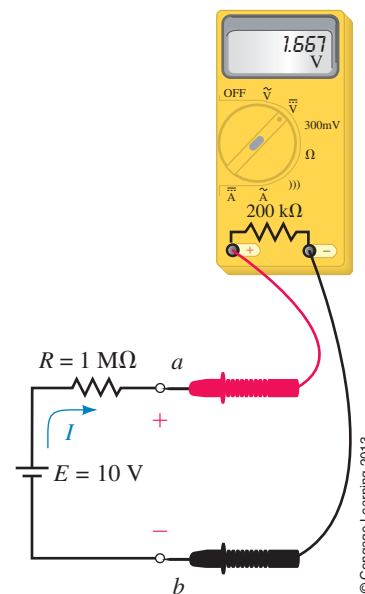

FIGURE 6-37
By connecting the 200-k Ω voltmeter between the terminals, as shown in Figure 6-37, we see that the voltage detected between terminals a and b will no longer be the desired voltage; rather,
A digital voltmeter having an internal resistance of 5 M Ω is used to measure the voltage across terminals a and b in the circuit of Figure 6-37.
Use Multisim to demonstrate the loading effect of the voltmeter used in Figure 6-37. The voltmeter is to have internal resistance of 200 kΩ.
- Construct the circuit by placing the battery, resistor, and ground as shown in Figure 6-37.